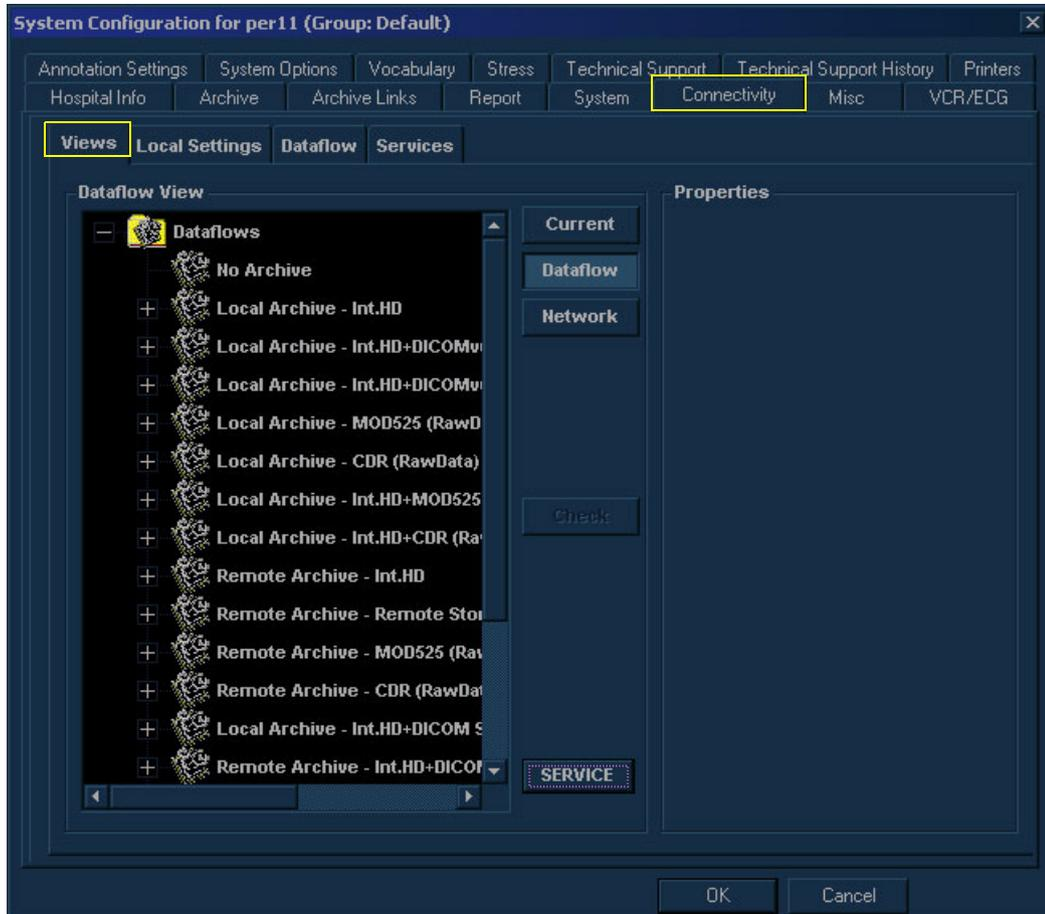

Figure 3-38 Connectivity Tab
- 3) Trackball to the **Connectivity** tab and press **Select**. The **Connectivity** tab is displayed, with the **Views** subsidiary tab selected by default, as shown in Figure 3-38 on page 3-57.
- 2) Trackball to the **Connectivity** tab and press **Select**. The **Connectivity** tab is displayed, with the **Views** subsidiary tab selected by default, as shown in Figure 3-38 on page 3-57.